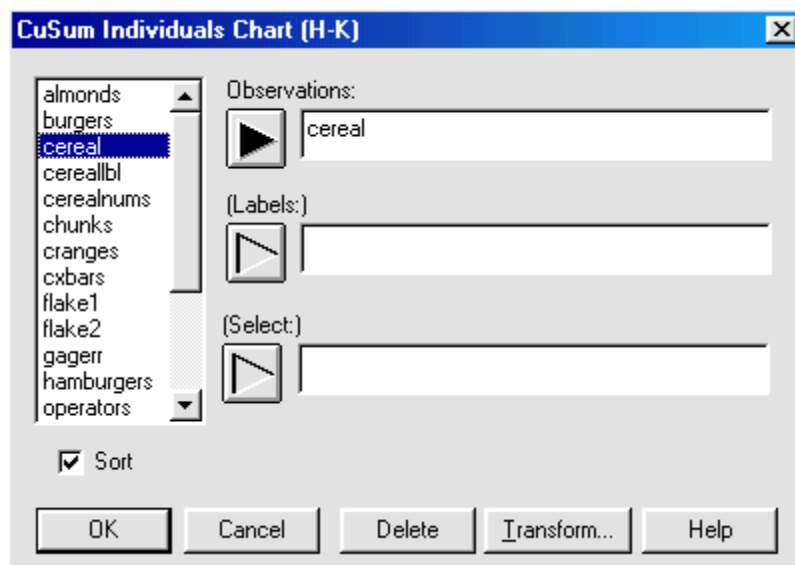

Figure 5-77. CuSum Individuals (H-K) Chart Analysis Dialog Box
1. Choose SPECIAL... QUALITY CONTROL... TIME-WEIGHTED CHARTS... CUSUM INDIVIDUALS CHART (H-K)... from the Menu bar to display the Analysis dialog box shown in Figure 5-77.